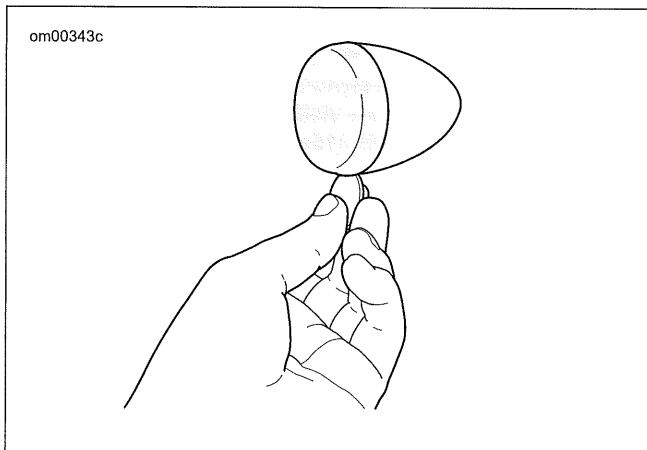

Figure 7-72. Remove Lens
1. See Figure 7-72. Replace bulb.